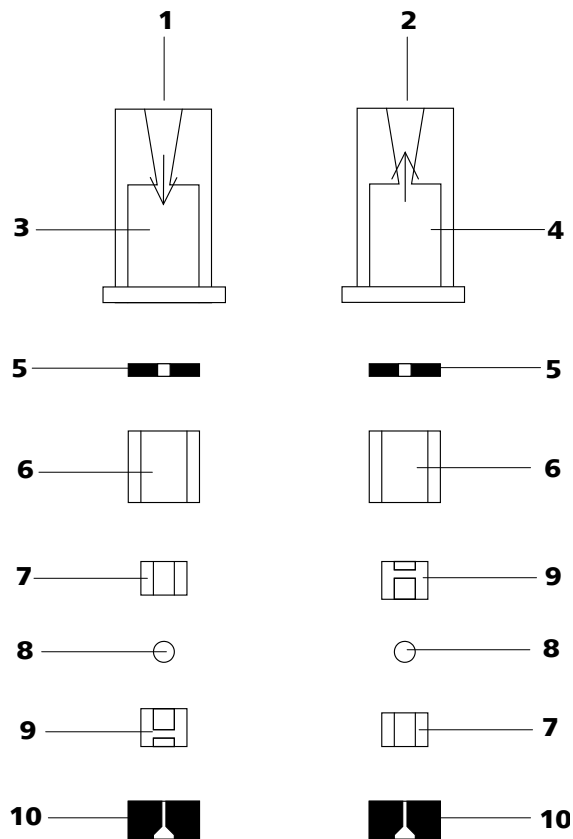

Figure 35 Components of the inlet valve and outlet valve
- The inlet valve and the outlet valve consist of the same, just differently arranged components (see Figure 35, page 72).
Reassemble valve components *according to figure 35, page 72*.
- Lay the other valve components above another in the correct sequence (*see Figure 35, page 72*).
If this is not the case, the valve has to be dismantled again and be reassembled correctly (see Figure 35, page 72).